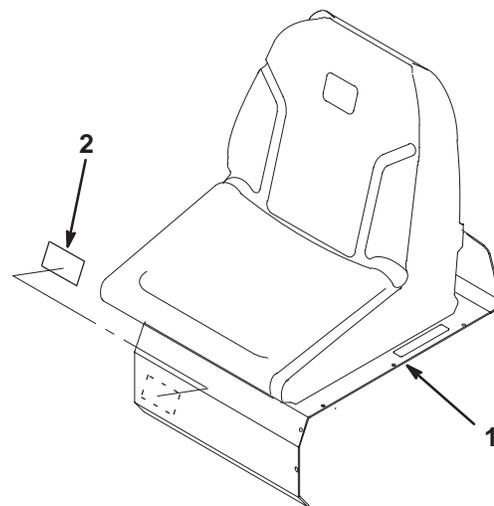

Figure 7
- 13.** On all models except 04357, affix the instruction decal to the underside of the seat support near the bottom right-hand side (Fig. 7). On model 04357, affix the instruction decal to the inside of the tool box cover as shown in Figure 8.